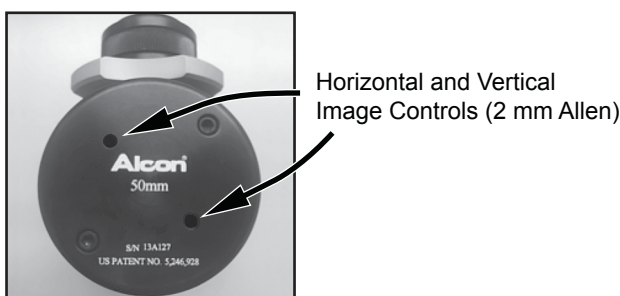

Figure 6–11 Horizontal and Vertical Image Adjustments on Monitor
11. If image shown on monitor is not centered, make horizontal and vertical adjustments with 2 mm Allen wrench, (*Figure 6–11*).